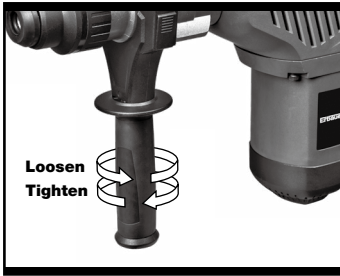

Fig. 1
1. ADJUSTING THE AUXILIARY HANDLE (see Fig 1)